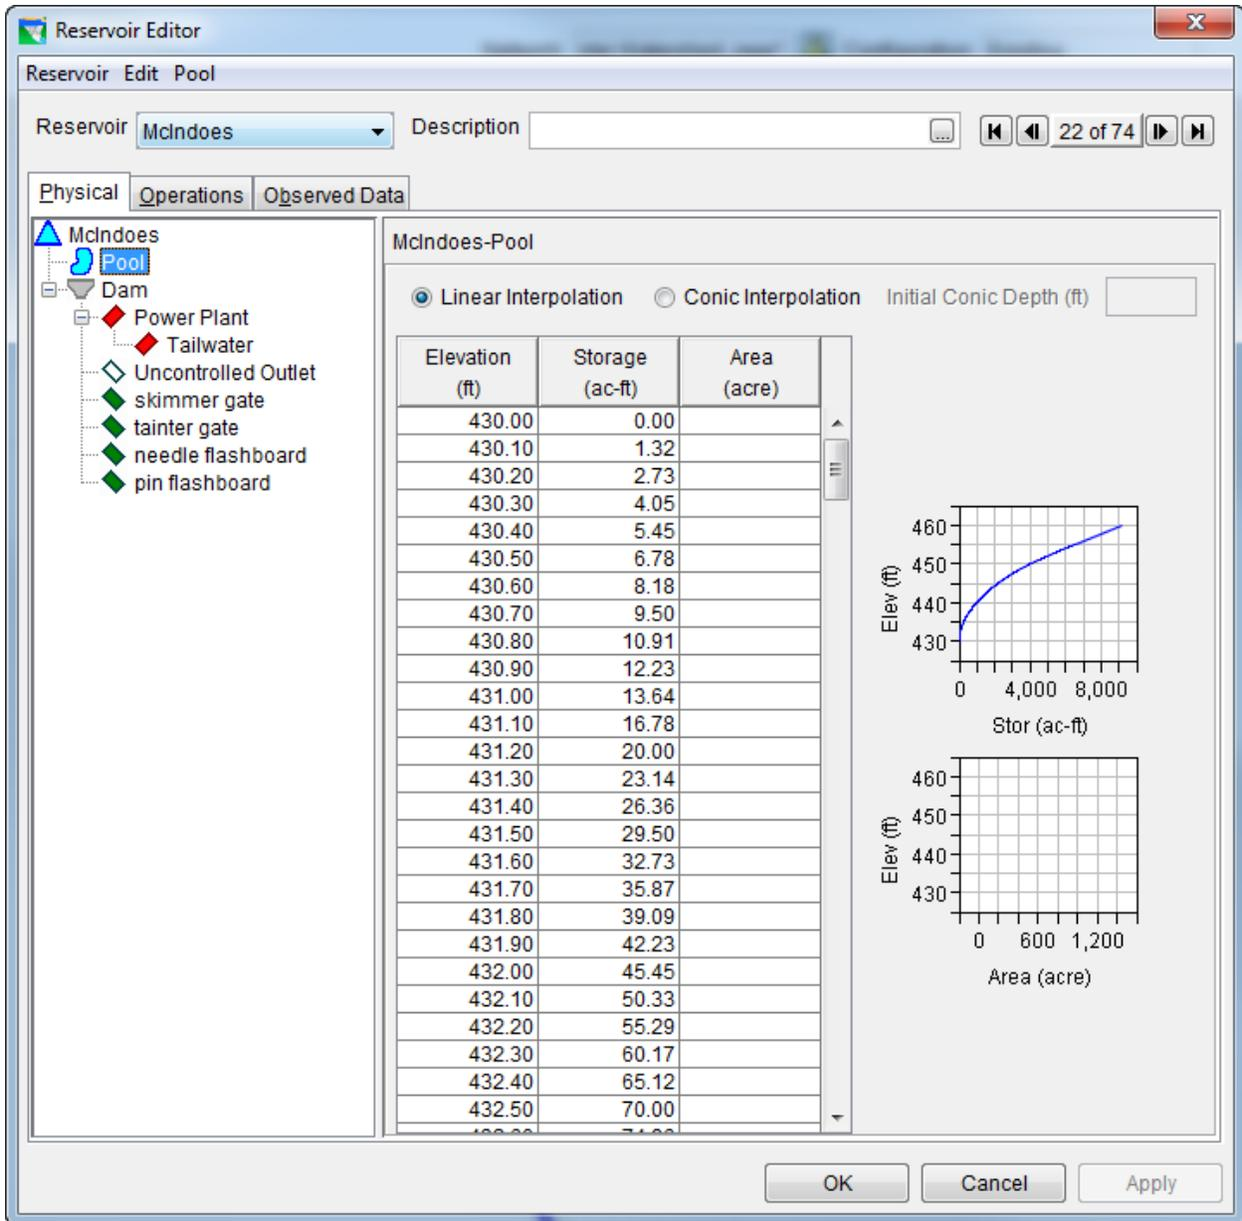
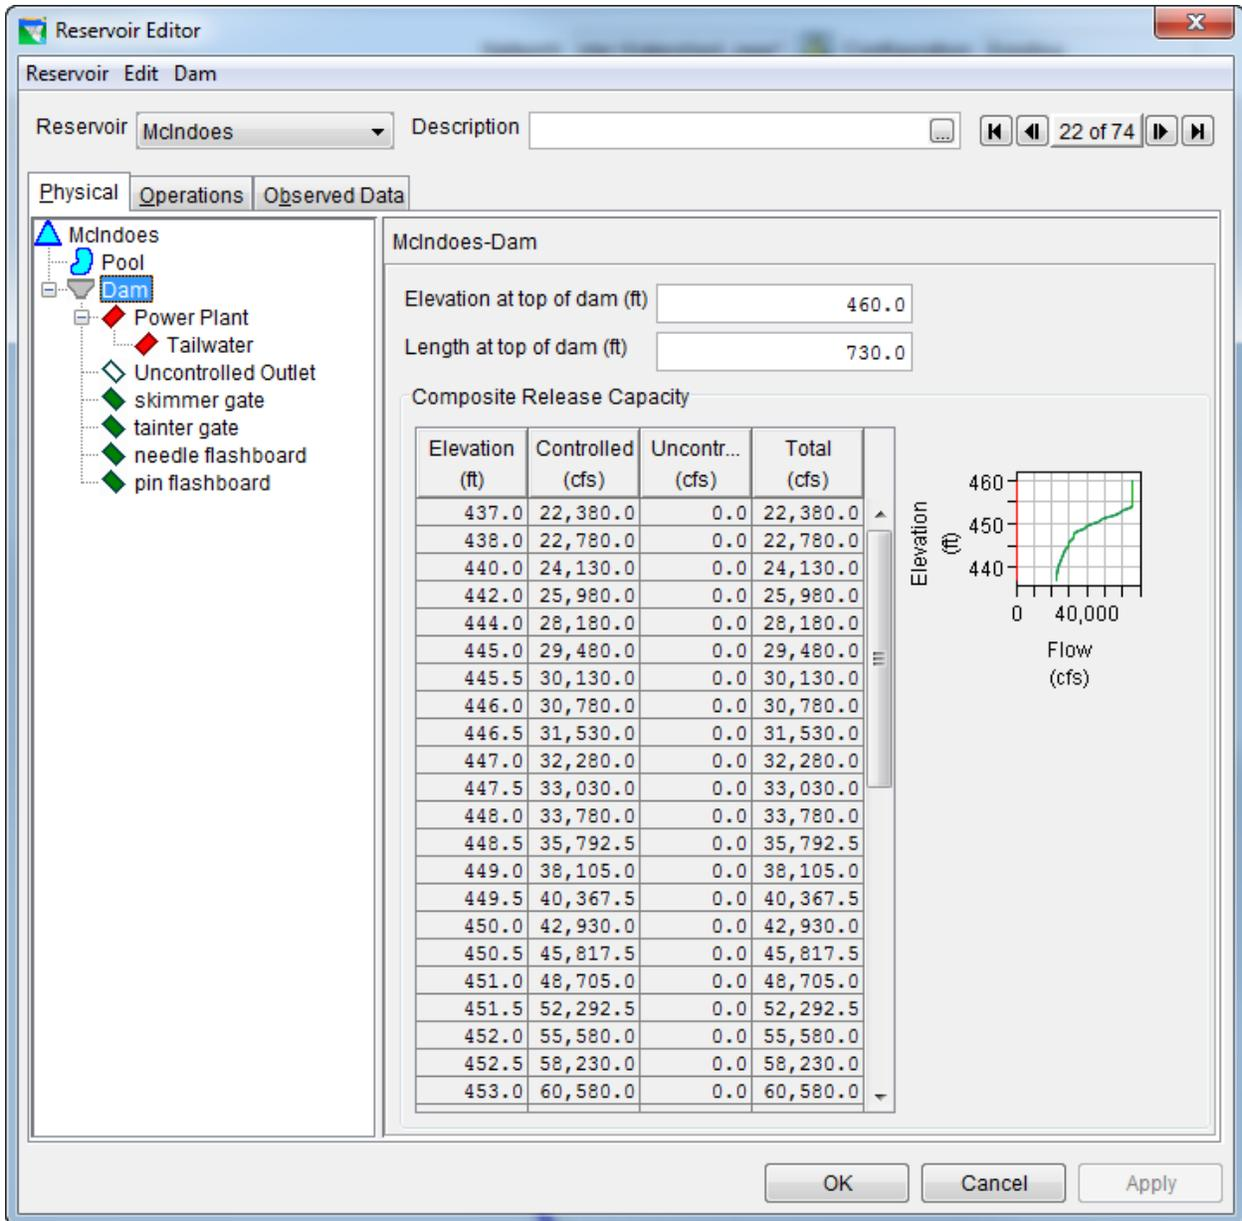

Figure 3: Reservoir Editor: Physical Tab -- Pool
Figure 4: Reservoir Editor: Physical Tab -- Dam
The physical characteristics of the reservoir are separated between the Pool and the Dam in the HEC-ResSim model. The elevation-storage-area defines the pool as shown in Figure 364. The dam consists of six types of outlets: (1) uncontrolled outlet, (2) controlled skimmer gate, (3) controlled tainter gate, (4) controlled needle flashboard, (5) controlled pin flashboard, (6) and power plant as shown in Figure 4.